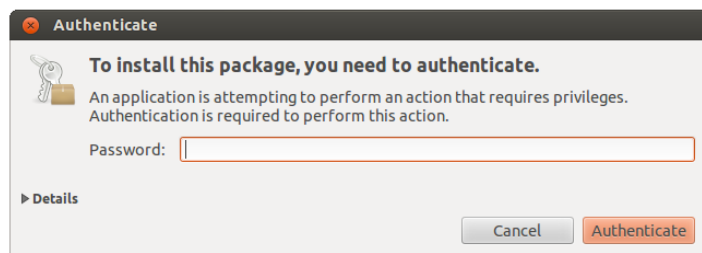

Figure 7: Ubuntu's Software Center asking for administrator privileges
3. Clicking on "install" starts the installation process. For security reasons you are asked for the `sodu` password as normal users are not allowed to install software. Please enter the required password in the window shown in Figure 7.